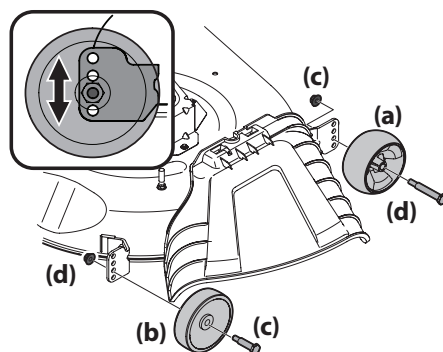

Figure 2-13
- b. Remove the front (a) and rear (b) deck wheels by removing the flange lock nuts (c) and shoulder bolts (d) that secure them to the deck. See Figure 2-13.